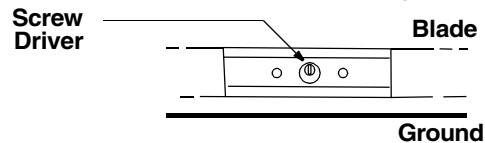

Figure 15
- The blade can be tested by balancing it on a round shaft screwdriver. See Figure 15. Remove metal from the heavy side until it balances evenly. It is recommended that the blade always be removed from the adapter for the best test of balance.